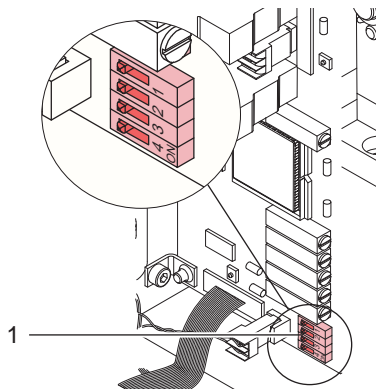
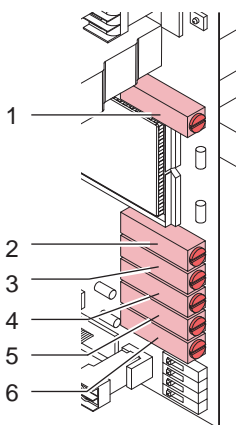

Figure 16 DIP-switches
Figure 17 Potentiometer
After removing the cover (2) of the manifold, 6 potentiometers (Figure 17) as well as 4 DIP switches (Figure 16) become accessible by which the parameters can be set.